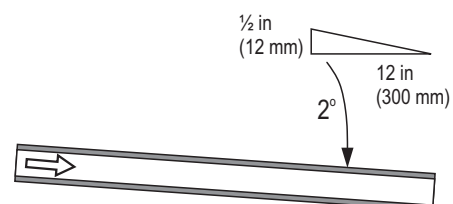

Figure 18: Steam Line Slope
- ❑ The steam line must have a constant minimum upslope of 10°, or a constant minimum downslope of 2°, as shown in Figure 18.